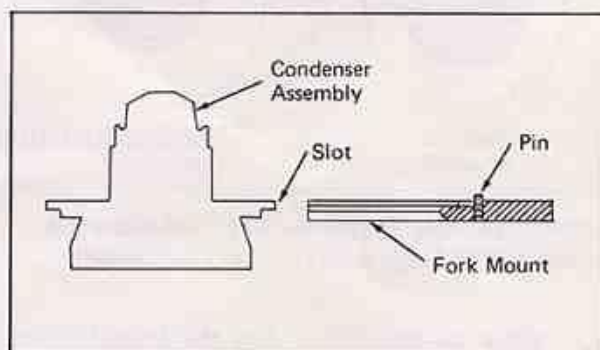

Figure 7. Fork Mount
3. Insert the darkfield condenser into the fork mount. Rotate the condenser until the slot in its flange (see Figure 7) engages the pin in the back of the fork mount. Tighten the thumbscrew to hold the darkfield condenser firmly in the fork mount.